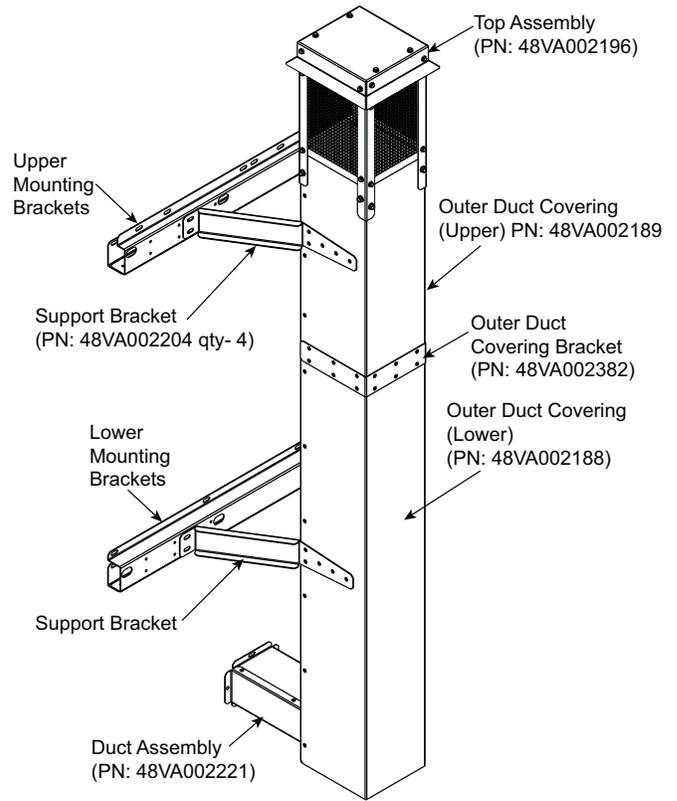

Fig. 6 – Flue Discharge Deflector Assembly
4. Assemble outer layer of flue using duct coverings (part no. 48VA002382, 48VA002189, and 48VA002188). See Fig. 6 for completed flue assembly.
5. Assemble the flue stack deflector with support brackets and mount the accessory to the mounting brackets installed in step 2. See Fig. 6 for flue deflector installation and assembly.
Remove and clean screen periodically to ensure proper air-flow and heating efficiency. Inspect full length of flue stack for any blockages which could impair flue performance. Inspect every fall, and periodically during heating season. Refer to Fig. 6 and 7 completed installation.